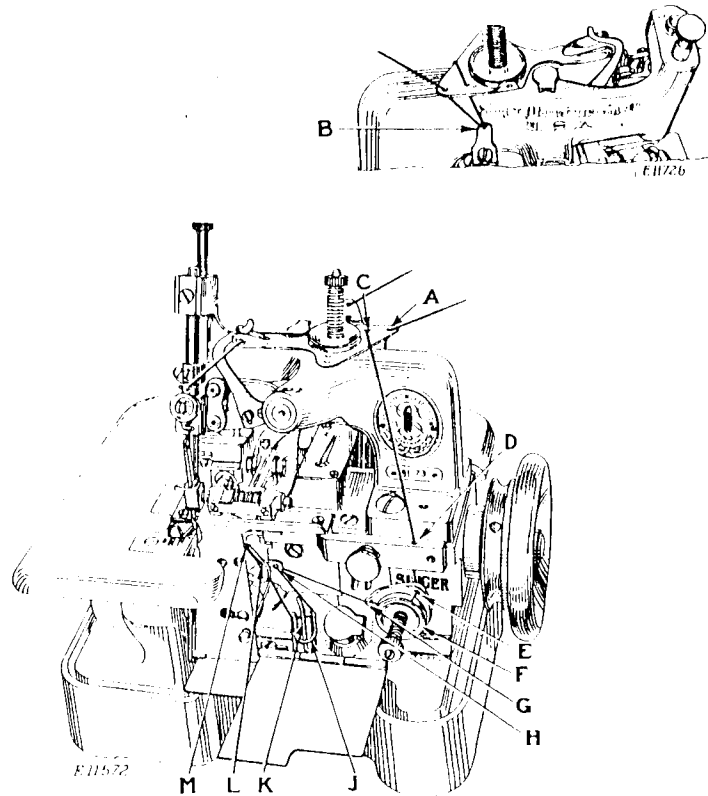

FIG. 11. THREADING THE RIGHT HAND LOOPER
Pass the thread from the unwinder, down through the hole (A, Fig. 11) in the tension bracket, from back to front through the
pull-off (B, Fig. 11) at the back of the machine, up through the hole (C, Fig. 11), down through the hole (D), through the hole (E), under between the tension discs (F), through the hole (G), from back to front through the take-up (H), down under the loop (J) of the staple then, with the forefinger, slide the thread up and over the prong (K), so that the thread rests in back of the prong, up and from back to front through the hole (L) in the heel of the right hand looper, and from front to back through the eye (M) of the right hand looper.
Note: The pull-off (B, Fig. 11) is only threaded when making the three-thread tight stitch.